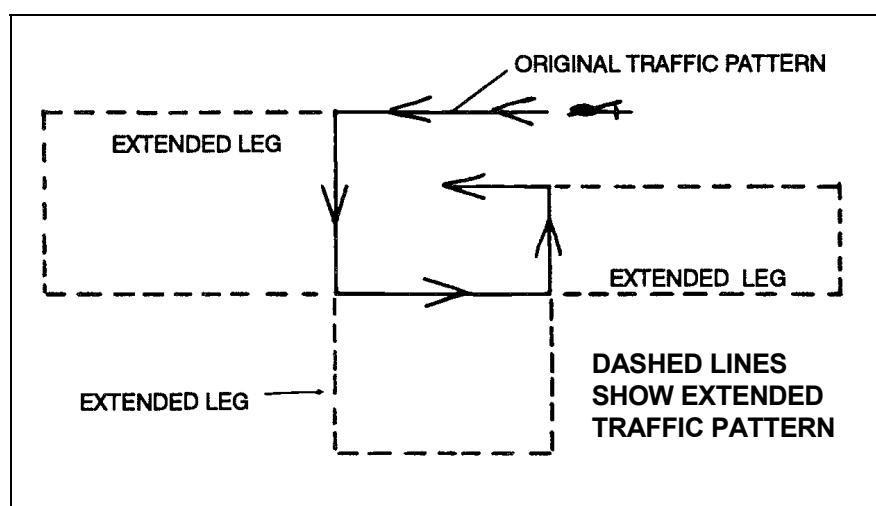

Figure 3-3. Traffic pattern extension.
b. **Three Legs of Traffic Pattern.** The pathfinder can only extend the traffic pattern on three legs: upwind, crosswind, and downwind (Figure 3-3). He can only extend one leg at a time. He cannot extend the base leg or the final approach, because they run back into the traffic pattern itself. When giving instructions to extend the traffic pattern, the pathfinder includes the length of the extension. The extension normally measures twice the original length of that leg. The pathfinder takes care to ensure that he does not extend the leg so far that he loses visual contact with the aircraft.